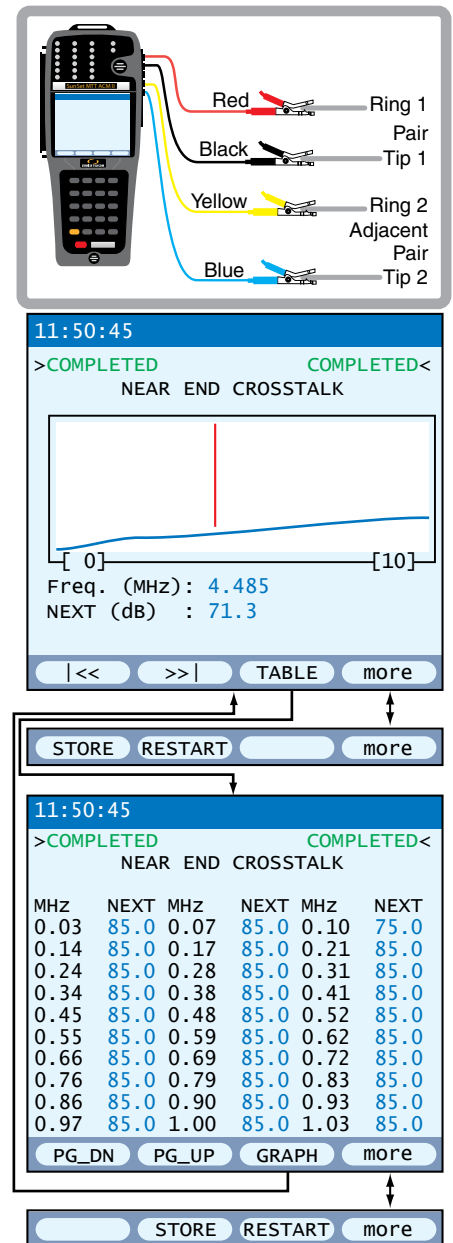

Figure 57 NEXT Connection and Screens
1. Connect the test cable from the RING1/TIP1 ports to the desired cable pair under test as in Figure 57. Note that these ports measure the amount of induced NEXT.